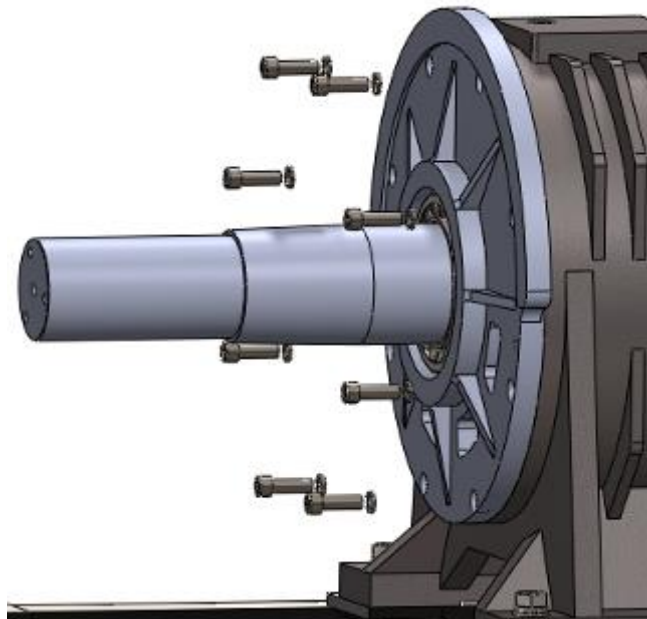

Figure 124: Remove M16x50 bolts and lock washers
5. Make a mark in the front cover and machine body. Remove 8 hex screws M16x50 and lock washer16 with hex wrench (14mm). See Figure 124.